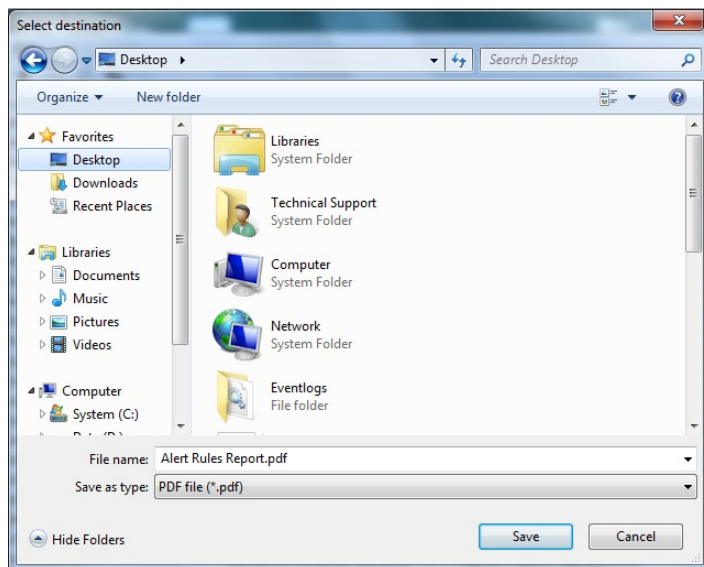

Figure 4: Select Destination
11. Click **Save**. The **Select Destination** pop-up appears (See Figure 4).